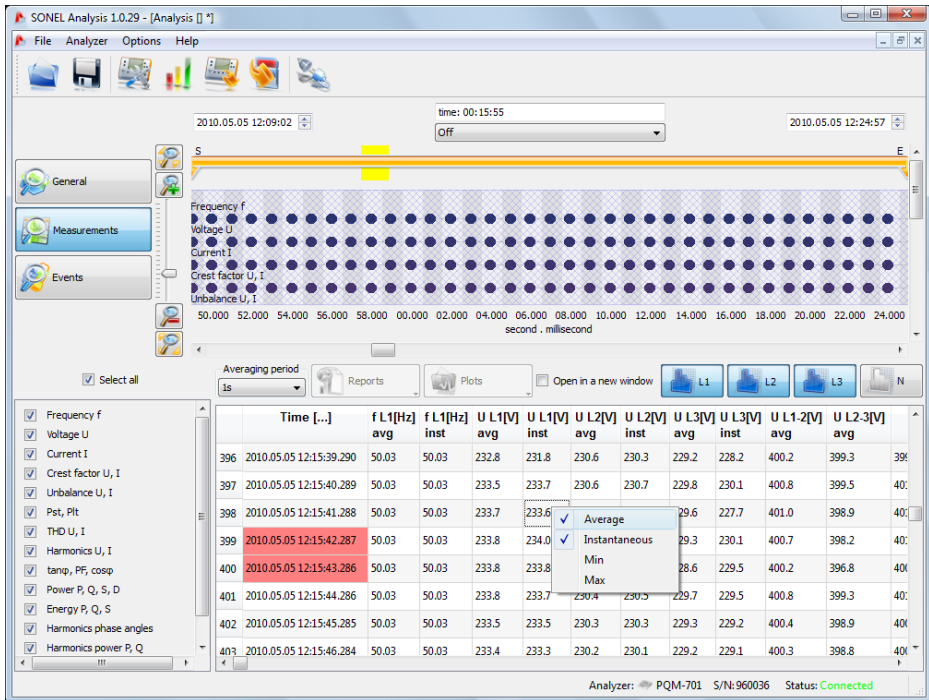
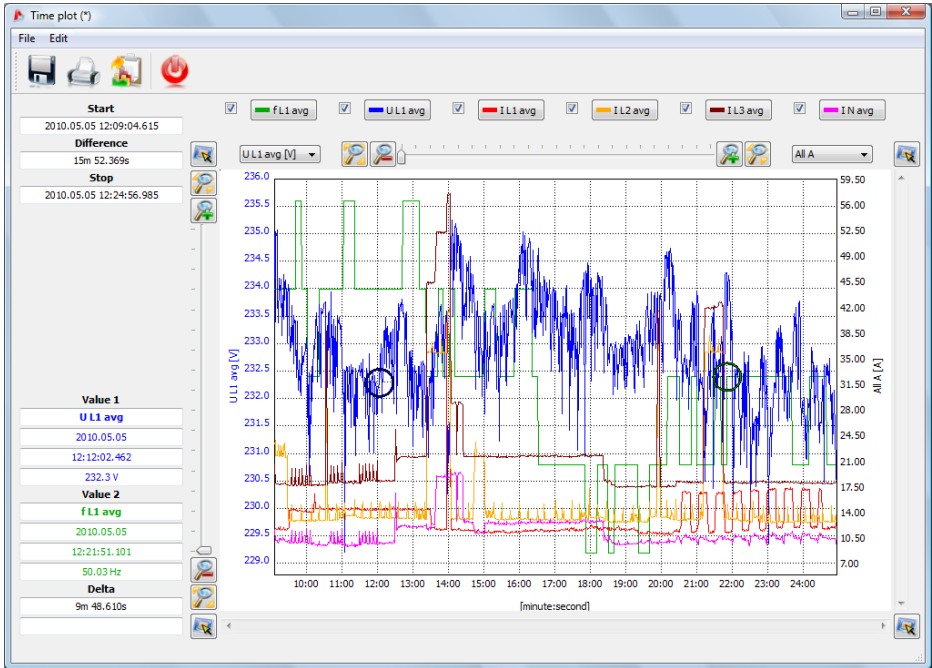
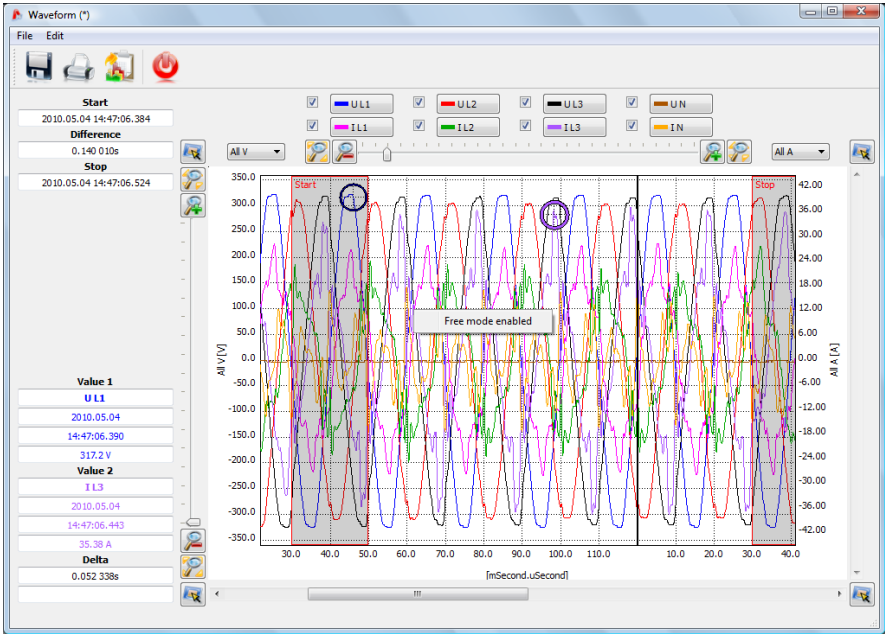
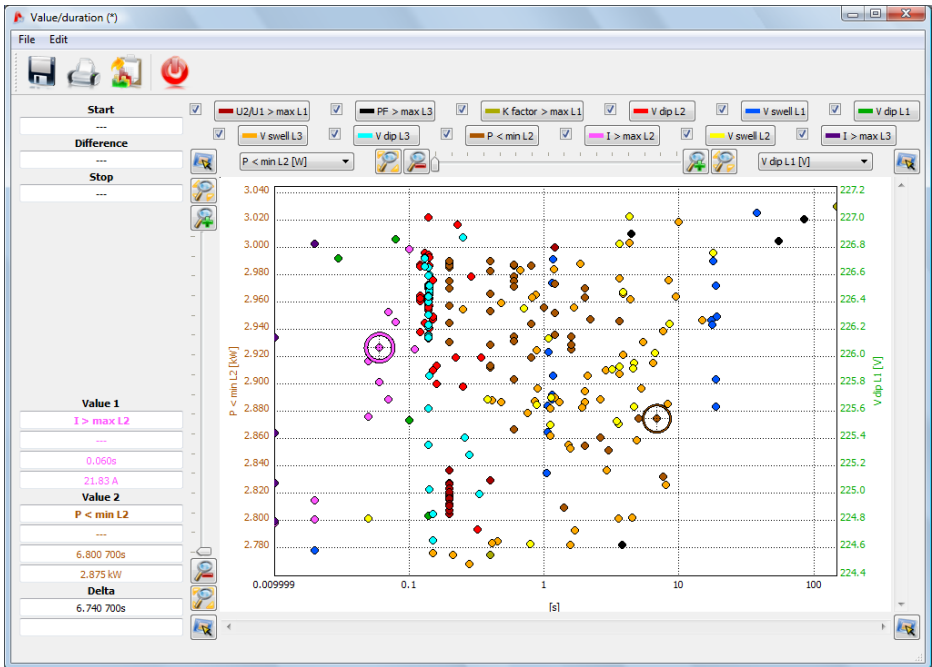

Fig. 57. Measurements window for user's recording.
Fig. 59. Timeplot window.
Fig. 63. Plot with start and end waveform.
Fig. 66. Data analysis – value/time diagram.
Clicking the **Measurements** button will change the window to the format shown in Fig. 57. The analyzable parameters appear in the lower part.
Right-click within the table area to display a context menu with the options: **Average**, **Instantaneous**, **Min**, **Max** (Fig. 57). Check/ uncheck the options to show/ hide relevant values from among the recorded data (as configured by the user).
- **Time plot** – when the **Time** column is selected along with any other column (columns) (as in Fig. 57) and this option is chosen, a new window appears with a diagram showing the indicated parameters over time. To include only a part of total time interval in the diagram, in the **Time** column select the period you are interested in, and then select relevant parameters. You can select any parameter columns, including individual harmonics U, I, f, H03, H05, etc. A typical time plot is shown in Fig. 59,
- **Waveform** – waveforms view for voltage and current (if any), i.e. during the events or at the end of an averaging period (Fig. 63). The waveform can be displayed by highlighting the row with available waveform and selecting the **Plots** option, and then the **Waveform** option, or by double-clicking on a given row,
Check event with waveform to activate the **Waveform** plot. Select this plot or double-click in the event row to open the event waveform plot window (Fig. 63). The **Open in a new window** option has the same functionality as in the data analysis.
Fig. 63 presents a typical waveform plot. As two waveforms are assigned to this event (start and end of the event), the grayed-out boxes on the diagram mark the beginning (**Start**) and the end (**End**) of the event. In case of a short event, the waveform will be continuous. If the event duration is longer, there will be two waveforms (2 periods before and 4 after for event beginning, and 2 before and 4 after for event end). The plot can be freely zoomed in as shown in Fig. 64. Operations on the plot are the same as in case of the time plot.
Fig. 66 presents the **Value/duration** plot. This plot shows the events as dots and allows presenting many events and the interrelation between event duration (on horizontal axis) and extreme event value (on vertical axis).
Zoom in/ zoom out operations, dragging, crosses functions, etc. in Fig. 63, Fig. 64 are analogous to the plots presented in Fig. 59 and Fig. 66.